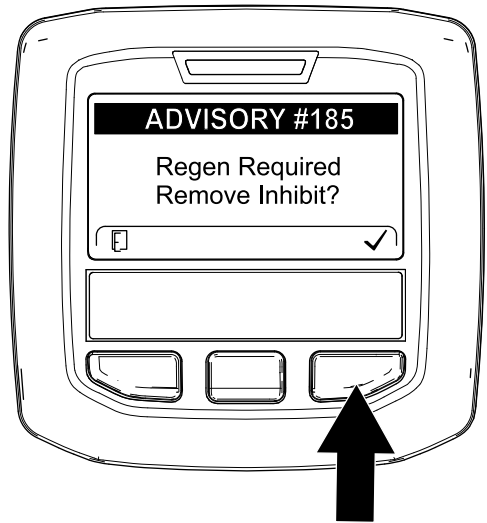

Figure 49
**Note:** If INHIBIT REGEN is set to ON, the InfoCenter displays ADVISORY #185 (Figure 49). Press button 3 to set inhibit regeneration setting to OFF and continue with the reset regeneration.